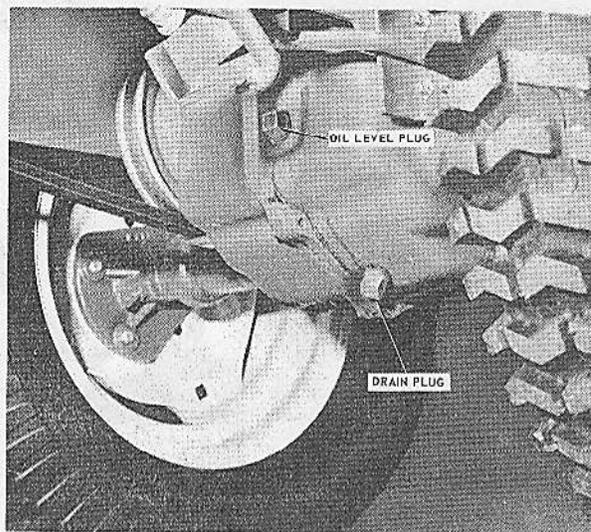

FIG. 12
To drain oil, unscrew drain plug under transaxle, refer to Fig. 12, and catch oil in suitable container.
4. To check oil level, remove plug from front of transaxle, Fig. 12. Oil level should be even with this plug.